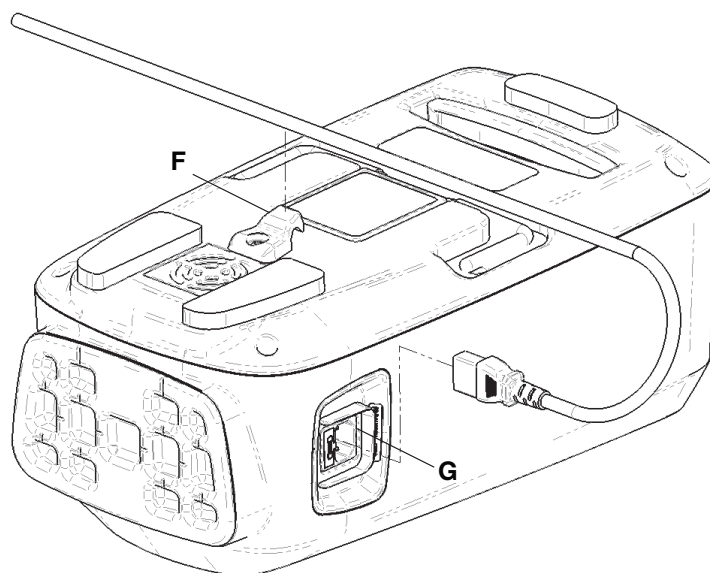

Figure 8 – Insert power cord
6. Insert the power cord under the power cord retention flex grip (F) (Figure 8).
7. Plug the power cord back into the pump (G) (Figure 8).